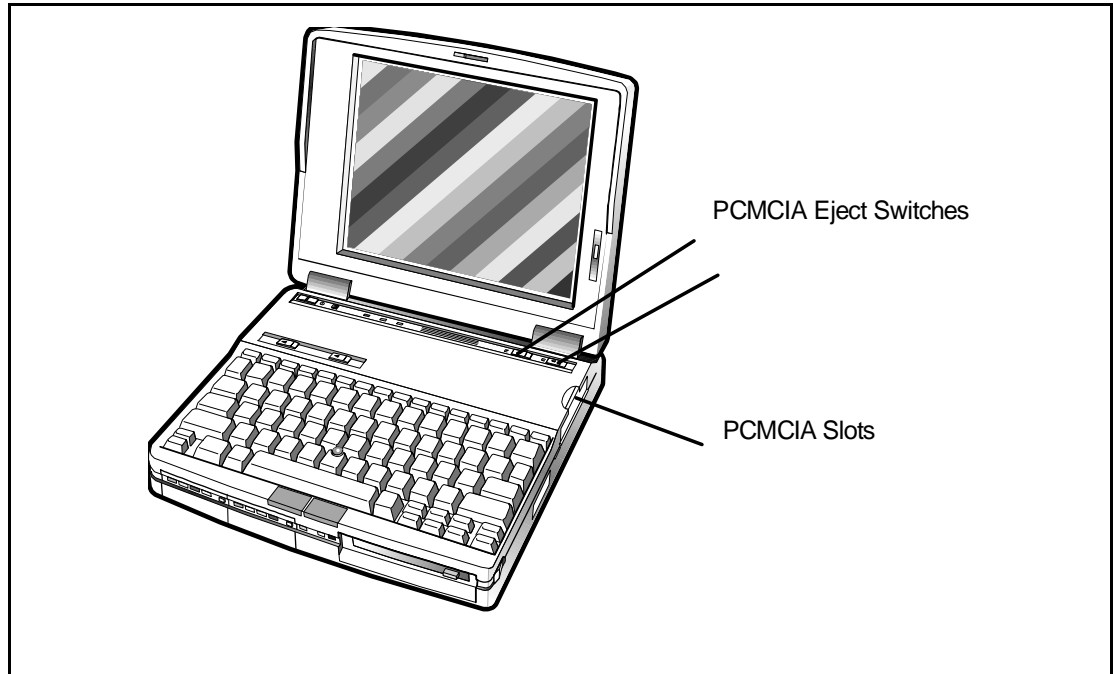

Figure 5-5 PCMCIA Device, Removal/Replacement
2. Press the associated PCMCIA Eject button (left button ejects the top PCMCIA device, right button ejects the bottom device (see Figure 5-5)).